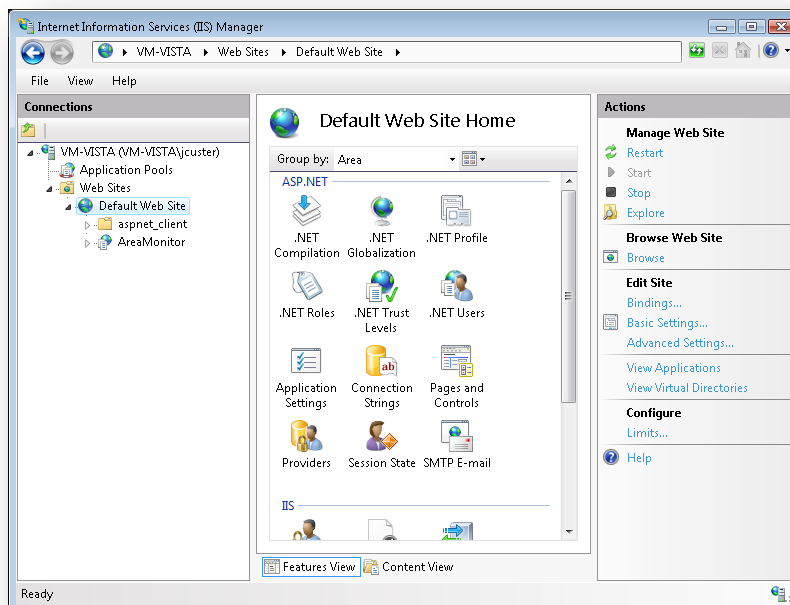

Figure 77 – Internet Information Services (IIS) Manager showing AreaMonitor application
16. Verify that the New Login window resembles Figure 77 before continuing.